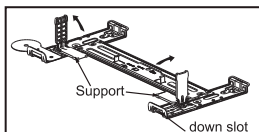
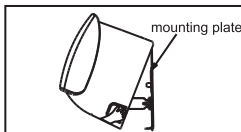

Fig. 3
Fig. 4
- 3) Open the two supports on the wall mounting plate to 90 degrees as shown in Fig. 3 and move the unit step by step to reach the best location(Fig. 4).
- 4) After connect pipe and wire,close the two supports on the wall mounting plate as shown in Fig. 3.Then move the unit step by step to reach the best installation, then press the unit into 2 down slots (Fig.4).